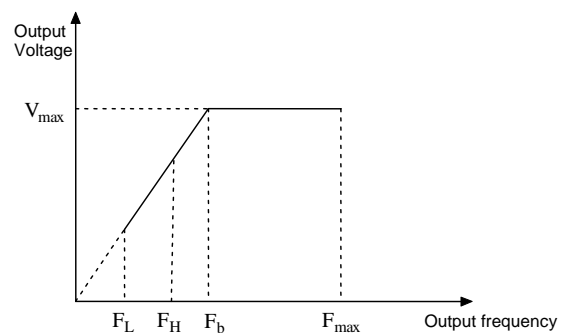

Fig.6-1 Characteristic parameters
Max output frequency is the highest permissible output frequency of the drive, as shown in Fig. 6-1 as  $F_{\max}$ ;
Max output voltage is the highest permissible output voltage of the drive, as shown in Fig. 6-1 as  $V_{\max}$
Upper limit of frequency is the highest permissible operating frequency of the user setting, as shown in Fig. 6-1 as  $F_H$ .
Lower limit of frequency is the lowest permissible operating frequency of the user setting,as shown in Fig.6-1 as  $F_L$ .
Basic operating frequency is the Min. frequency when the drive outputs the max voltage in V/F mode, as shown in Fig. 6-1 as  $F_b$
4. The Max. output frequency,upper limit frequency and lower limit frequency is as shown in Fig.6-1.